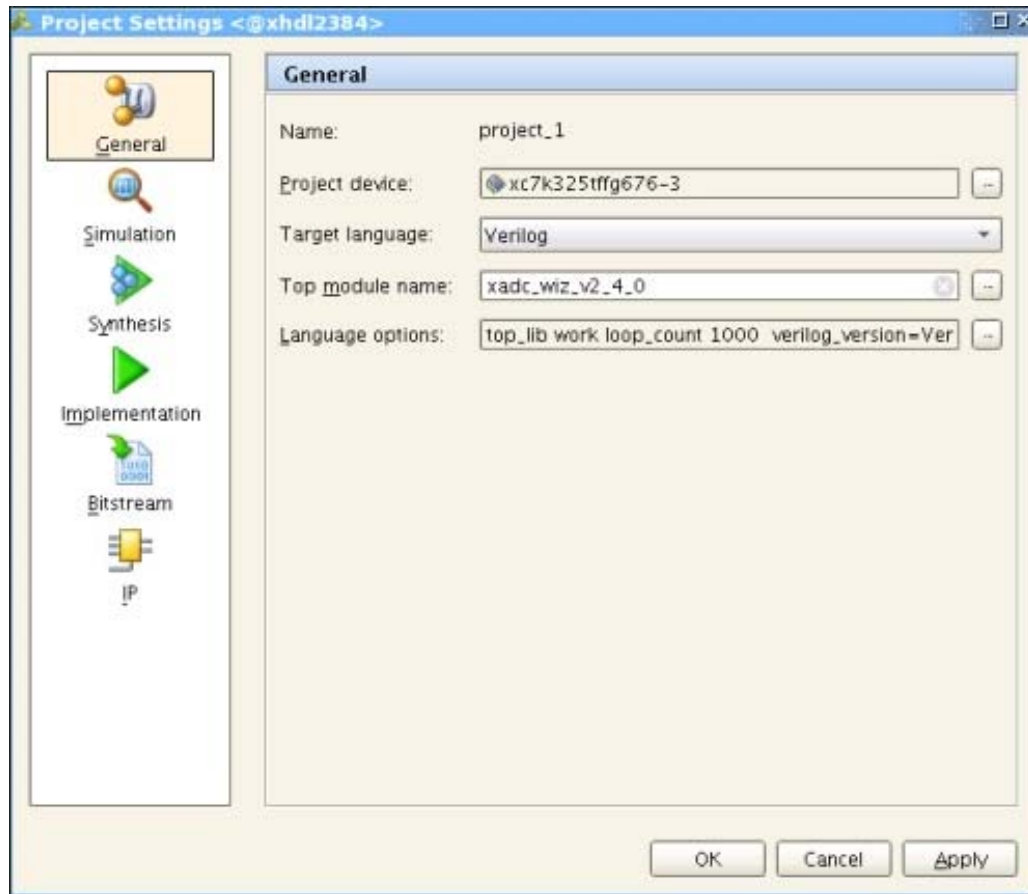

Figure 4-2: Target Architecture Setting
4. Select an appropriate package from the Package list. This example uses the XC7K235T device (see Figure 4-2).